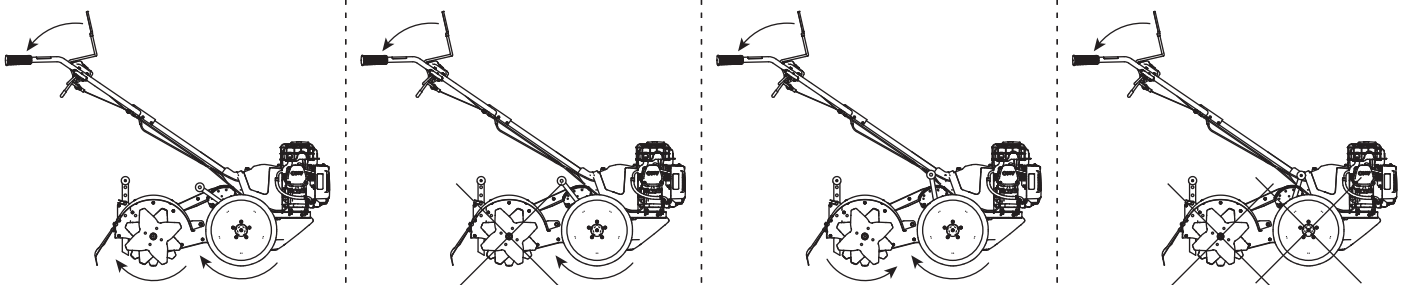

Figure 14
**MODES D'ENTRAÎNEMENT :** VOIR FIGURE 14